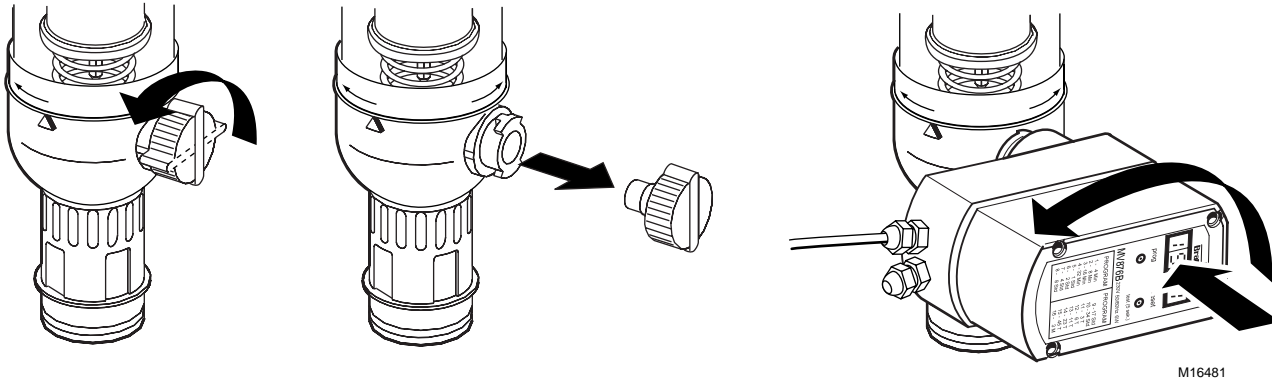

Fig. 5. Installing the MV876.
3. Install the MV876. See Fig. 5 and 6.